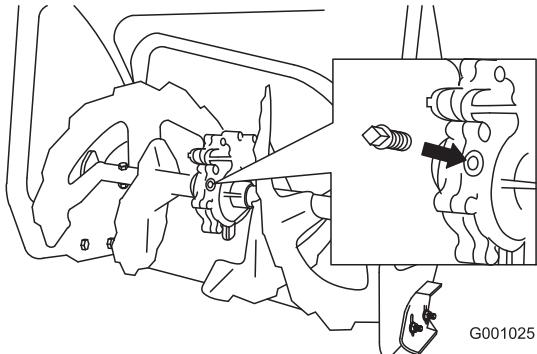

Figure 42
- Clean the area around the pipe plug (Figure 42).